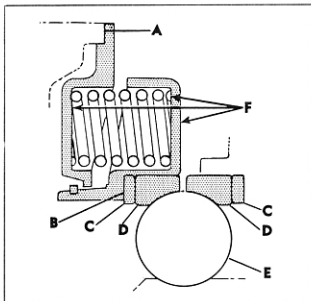

FIG. 7 BALL RACE LOAD ASSEMBLY
The race load assembly, through compression of internal springs when the supercharger is assembled, applies pressure evenly around the front ball race. (See Figure 7.) The contact point (A) is between the race load assembly and the bearing housing. Pressure is applied to the planetary system at (B), through the